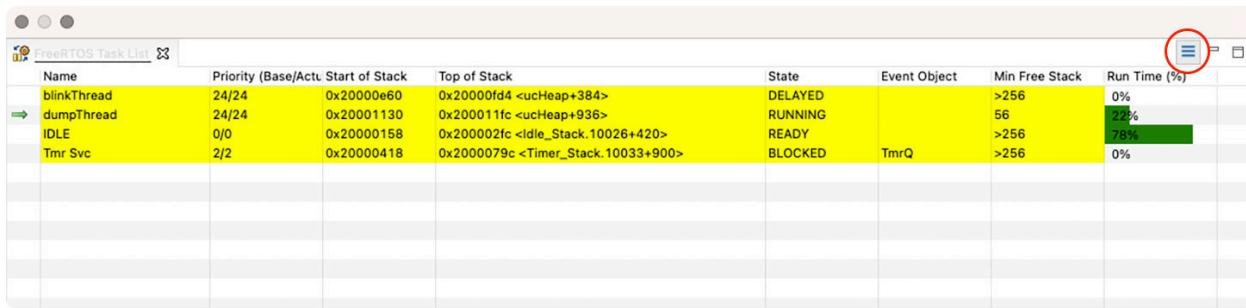

Figure 23.23: The FreeRTOS Task List view
- The `configUSE_TRACE_FACILITY` macro needs to be defined and set to 1. This allows the **FreeRTOS Task List** view to collect additional information regarding the status of the thread's stack, as shown in Figure 23.23, and to show the complete list of defined semaphores.
The **FreeRTOS Task List** view displays detailed information regarding all available tasks in the target system. The task list is updated automatically each time the target execution is paused. There is one column for each type of task parameter, and one row for each task. If the value of any parameter for a task has changed since the last time the debugger was suspended, the corresponding row is highlighted in yellow, as shown in the example in **Figure 23.23**. Due to performance reasons, stack analysis (the **Min Free Stack** column) is disabled by default. To enable stack analysis click on the **Toggle Stack Checking** button, circled in red in **Figure 23.23**. When FreeRTOS is configured with `configRECORD_STACK_HIGH_ADDRESS` set to 1, the column **Min Free Stack** is changed to **Stack Usage**: in this case it displays the stack usage in detailed format as **Used/Total(%Used)**.